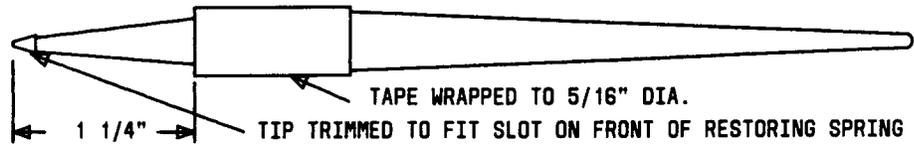
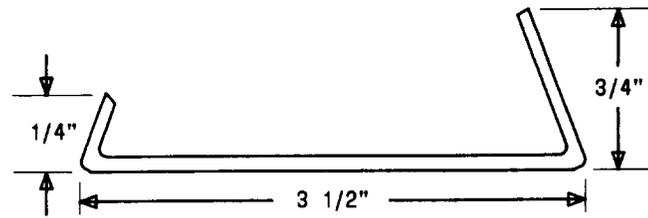

Fig. 2.1—KS-6320, L1, Orange Stick With Tip Trimmed
Fig. 2.2—Wire Hook
- (a) To change subparagraph 4.11(2) and to add subparagraphs 4.11(3) through (10)
- (b) To add two figures (Fig. 2.1 and 2.2).
- (2) Wrap a KS-6320, L1, orange stick with tape to a diameter of 5/16 inch. (See Fig. 2.1.)
- (3) Trim the end of the KS-6320, L1, orange stick to fit into the slot at the front of the restoring spring. (See Fig. 2.1.)
- (4) Obtain a piece of stiff wire (such as a paper clip) approximately 4-1/2 inches long.
- (5) At one end of the wire, make a bend approximately 1/4 inch from the end at an 80° angle. (See Fig. 2.2.)
(6) At the opposite end of the wire, make a bend approximately 3/4 inch from the end at an 80° angle. (See Fig. 2.2.)
(7) Hold the KS-6320, L1, orange stick between the index finger and the second finger and insert the trimmed end of the stick into the front slot of the restoring spring.